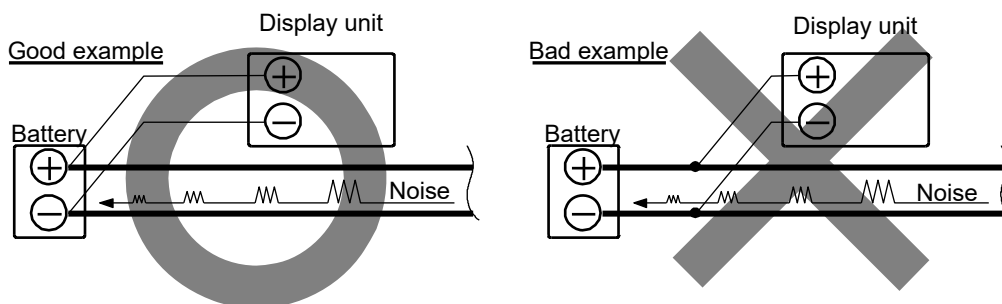

Fig. 5.1.1 Connection of Power Line
- (3) If you connect the power cable directly to the battery, the interference from other electronic equipment is not subject to occurrence. (See Fig. 5.1.1)